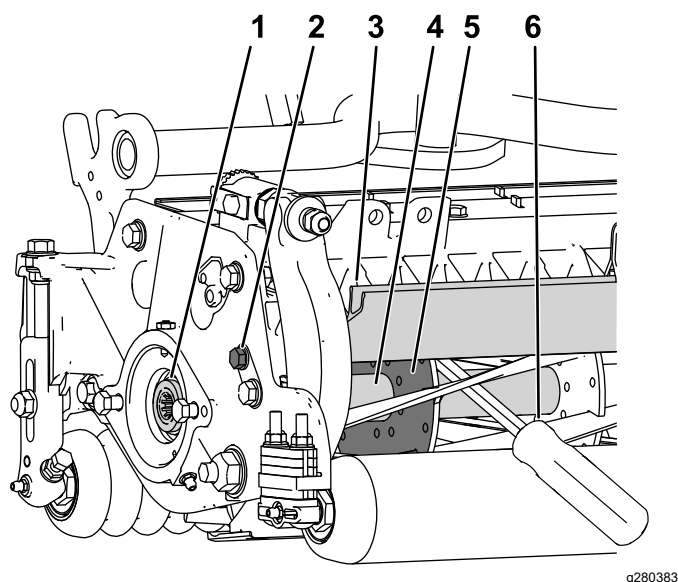

Figure 28
1. Loosen the shield-bolt on the left side of the cutting unit and raise the rear shield (Figure 28).
2. Insert a long-handled pry bar (recommended 3/8 x 12 inches with screwdriver handle) through the back of the cutting reel, closest to the side of the cutting unit that you will be torquing (Figure 28).
3. Place the pry bar against the weld side of the reel support plate (Figure 28).